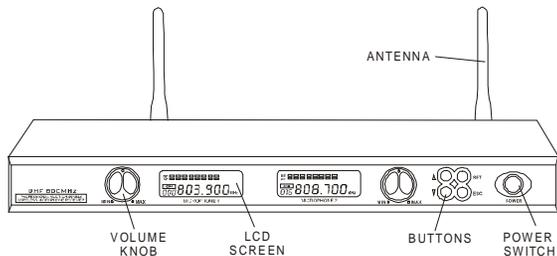

Fig.26 Receiver 8223
- 4.7.1 Receiver 8223 was shown in Fig.26.